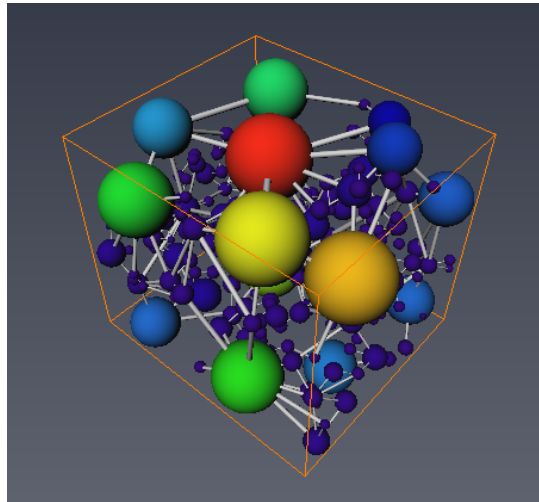

Figure 20.11: Pore Network Model View
2. Create a *Pore Network Model View* on the new network and hide the *Volume Rendering* module linked to the separated data. You can now visualize the network in the original data (see Figures 20.11, 20.12, and 20.13).